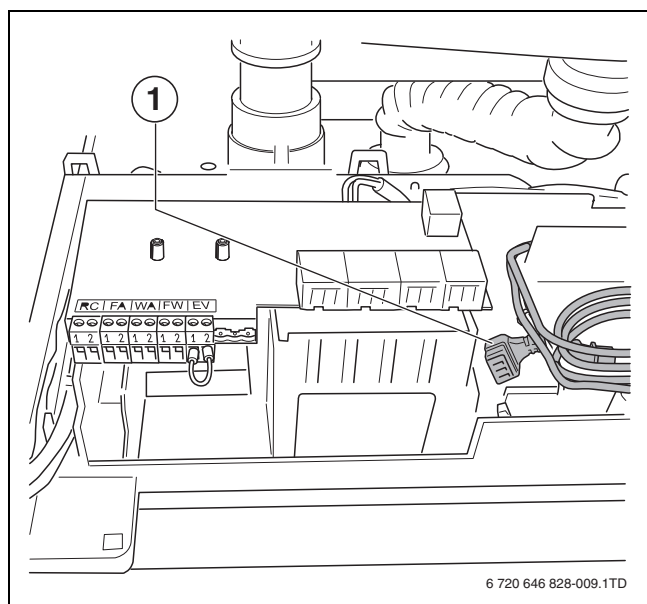
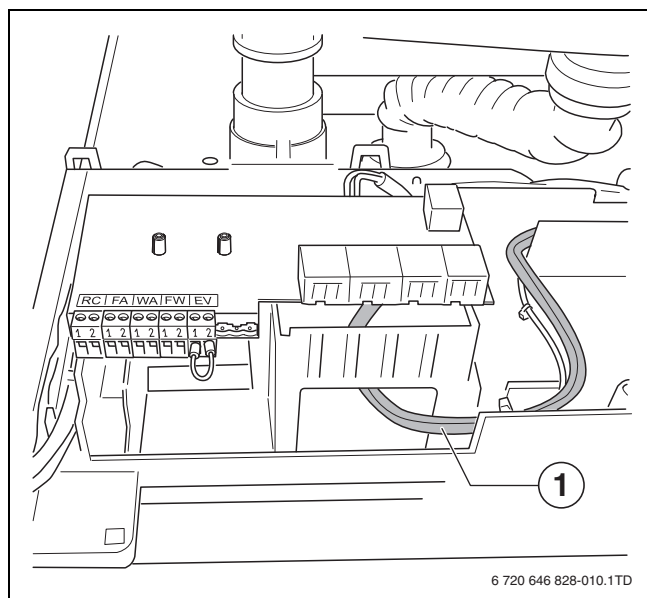

Fig. 20 Laying the pump connection cable
Fig. 21 Laying the pump connection leads
- Lay the pump connection cable from the boiler through the hole under the electrical connection box downwards (→ fig. 20, [1] and fig. 21, [1]).